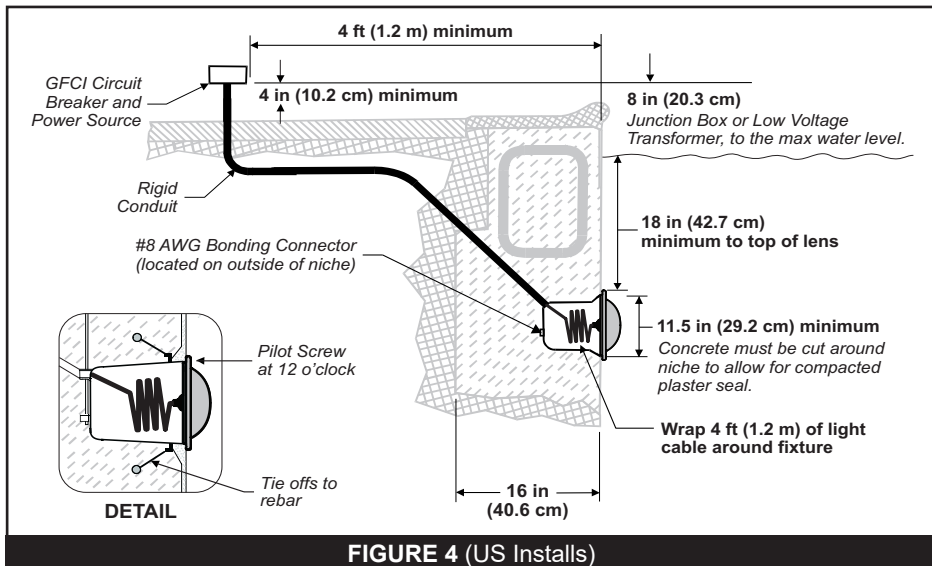

FIGURE 4 (US Installs)
- The low-voltage transformer, and/or junction box, shall be located at least 8-inches (20.3 cm) above the maximum water level and at least four 4-inches (10.2 cm) above the ground level or pool/spa deck, whichever provides the greater elevation. Refer to *FIGURE 4 (US Installs)* on page 5.
- The junction box shall be no less than 4 feet (1.2 m) from the inside wall of the pool/spa; unless separated from the pool/spa by a solid fence, wall or other permanent barrier. Refer to *FIGURE 4 (US Installs)* on page 5.
- Bond the light fixture to all other metallic items within 5 feet (1.5 m) of the pool/spa, using a #8 AWG bond wire. The bonding lug is located at the rear of the niche. Refer to *FIGURE 4 (US Installs)* on page 5.
- If non-metallic conduit is used, a #8 AWG bonding/grounding wire must be installed through the conduit from the Junction Box to the bonding/grounding lug inside the niche. Seal the bonding/grounding connection with a proper sealant to protect the connection from potential corrosion. Refer to *FIGURE 4 (US Installs)* on page 5.
- The niche must be installed so that the top edge of the light lens, when installed, is at least 18-inches (45.7 cm) below the maximum water level. Refer to *FIGURE 4 (US Installs)* on page 5.